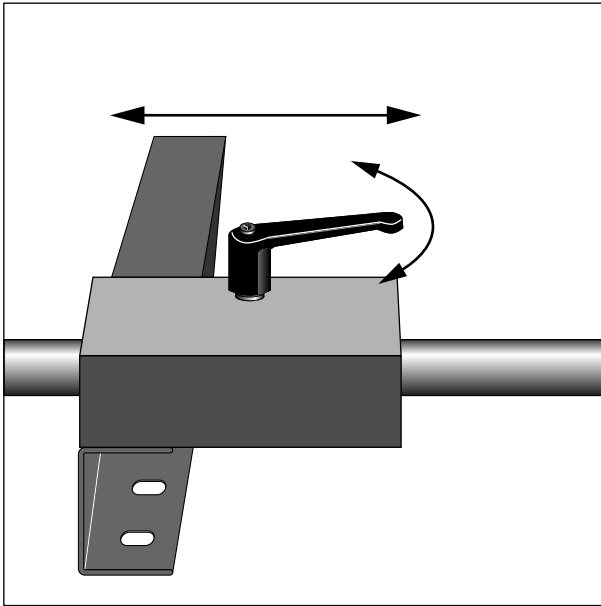

Figure 5-5. Clamping lever for screen support bars
- \* Open the clamps of the two screen support bars (2 clamps each at the front and at the back, Figure 5-5).